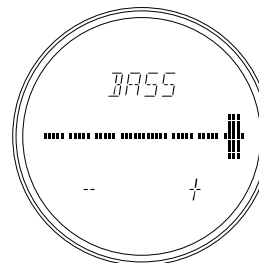

Fig.2
2. Within approx. 5 seconds, turn the **JOG** control **25** to the left to decrease, or to the right to increase step by step. You can both increase and decrease the tone for 7 step. (Fig.2) To cancel the tone adjustment operation, press the **ENTER** button **25**.